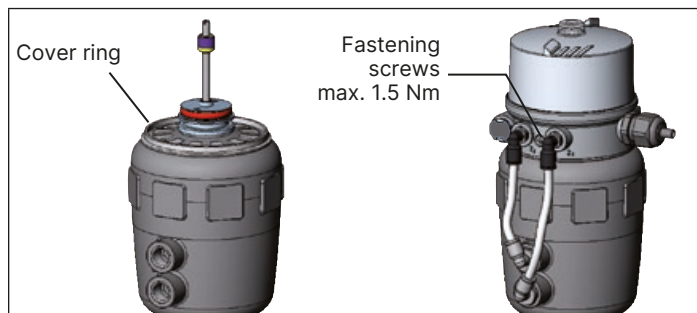

Fig. 7: Installation of the cover ring and the Pneumatic Control Unit, series 20xx
- ▶ Ensure that the pneumatic ports of the Pneumatic Control Unit and those of the actuator are situated preferably vertically one above the other (see Fig. 7). If they are positioned differently, longer hoses may be required other than those supplied in the accessory kit.